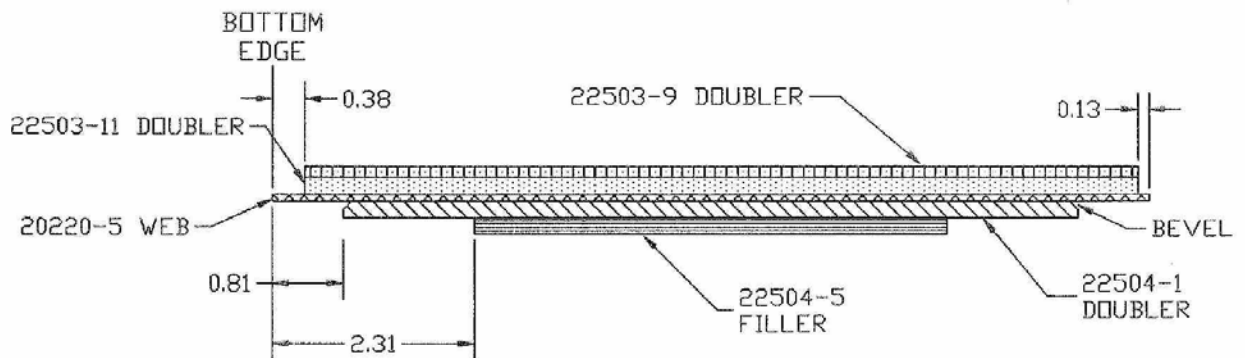
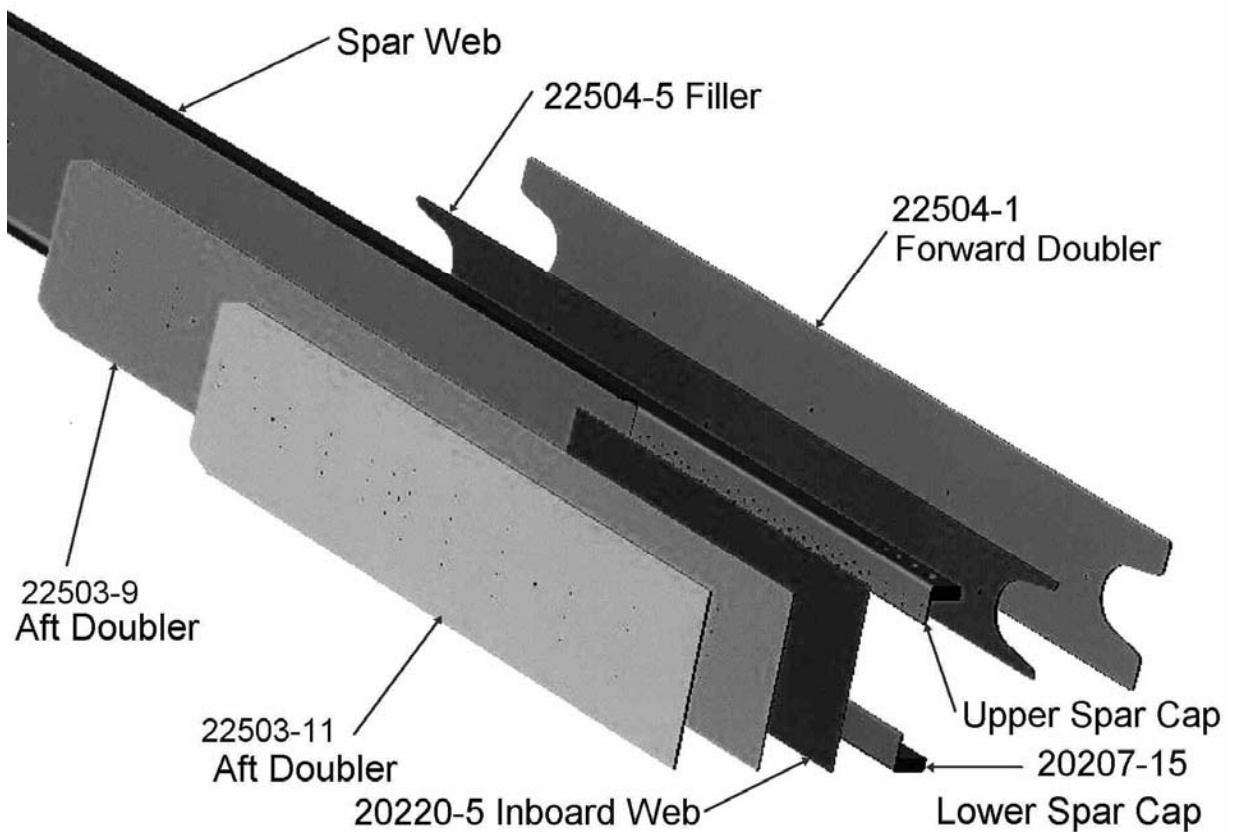

Figure 4.3.1) Spar Web Stack-Up For Drilling Only
Figure 7.1): Exploded View of New Spar Inboard Web and Doublers
4.3.1.1) Normally 22503-11 would be on top, and beneath it would be 22503-9, as shown in Figure 7.1). For purposes of transferring the holes to all the doublers, however, 22503-9 will have to be on top, with 22503-11 beneath it, aligned at the top, bottom and inboard edges. Third in the stack-up is 20220-5. Its inboard edge aligns with the inboard edge of 22503-11, but the bottom edge should stick down below 22503-11 by 3/8". The top edge of 20220-5 should stick up above 22503-11 by 1/8". The 22504-1 doubler is beneath the 20220-5. The lower edge of 22504-1 is parallel to and 13/16" (.813) above the lower edge of 20220-5. The inboard end of 22504-1 is 8 5/16" outboard of the inboard edge of 20220-5. Note that the beveled long edges of 22504-1 should face the top of the stack. Finally, the 22504-5 filler is on the bottom of the stack, with its lower edge parallel to and 2 5/16" above the lower edge of 20220-5 (1 1/2" above the lower edge of 22504-1). See Figure 4.3.1) for the appropriate doubler stack-up for drilling.
- 7.1) **With the LE and main rib lengths adjusted as necessary, the new spar web doublers can be installed.** It is suggested that these doublers be fit checked first so that any damaged or slightly misaligned holes can be opened up to the next standard fastener size, if necessary. If this is not large enough to fix the damage the mechanic must determine, based on AC 43.13-1B, what the best course of action is. See Figure 7.1) for proper doubler placement.
- 7.1.2) The .190 thick aluminum 22504-5 filler goes immediately in front of the spar web, between the spar cap flanges, and the .190 thick steel 22504-1 forward doubler goes immediately in front of it. They need not have sealer between them, but there needs to be sealer between the filler and the forward side of the spar web. Note that the beveled edges of the 22504-1 go aft, to provide clearance at the spar cap flange radii. Refer to Figure 7.1) for an illustration of the correct placement of these doublers.